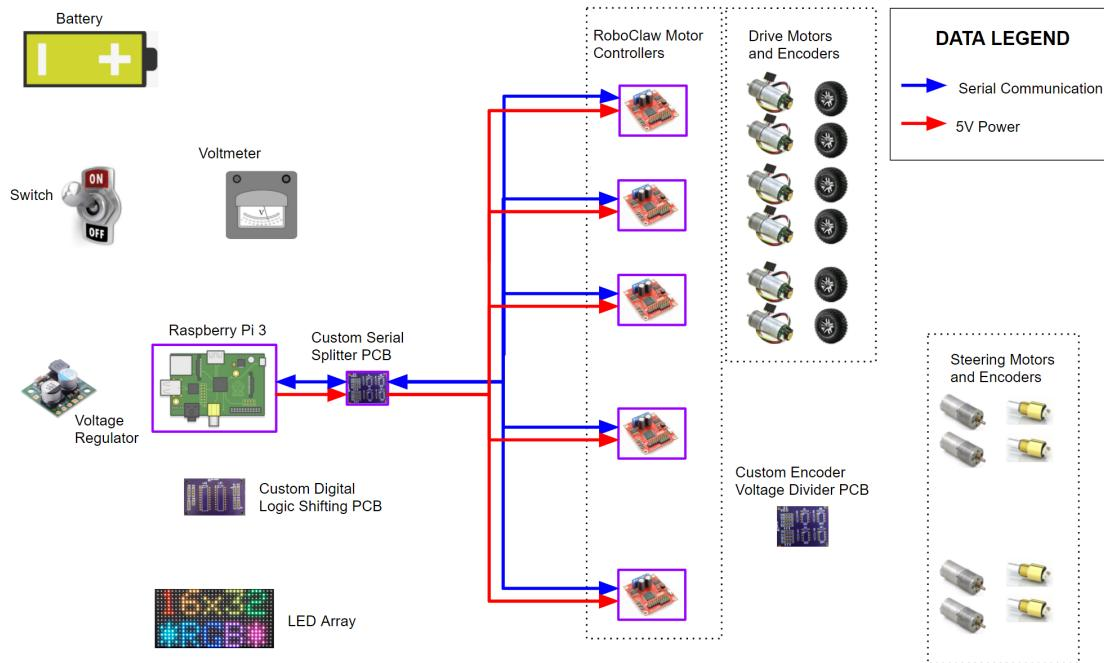

Figure 13: Serial Splitter Overview
Next, we need to bring power to the Raspberry Pi. It requires a regulated 5V DC power source, so it will be powered from the 5V regulator. Figure 13 shows the section of the power diagram we'll be working on, with components and connections that we make in this section marked in **RED**.
**Connecting the Raspberry Pi to Serial Splitter Board:** In order for the Raspberry Pi to talk to the motor controllers we will be using Serial communication. Figure 13 shows the section of the power diagram we'll be working on, with the power connections shown in **RED** and data lines in **BLUE**.